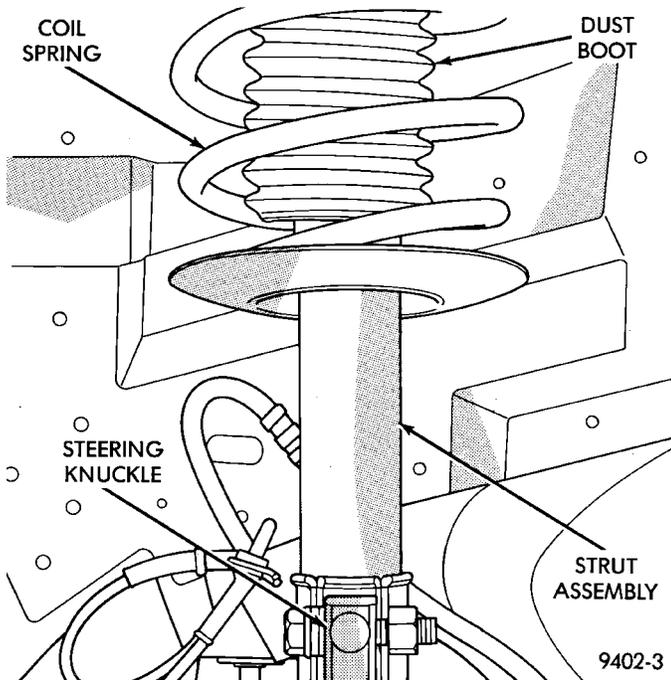

Fig. 8 McPherson Strut Assembly Inspection
- (1) Inspect for damaged or broken coil springs (Fig. 8).
- (2) Inspect for torn or damaged strut assembly dust boots (Fig. 8).